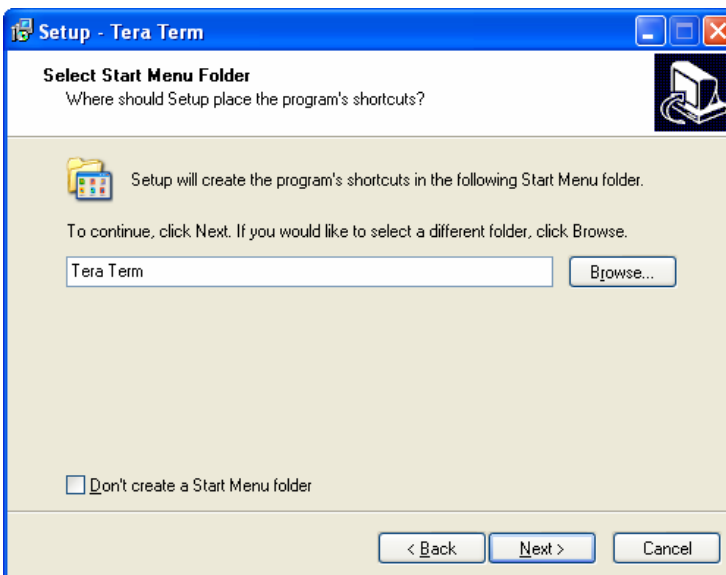

Figure 6-10: Select Start Menu Screen
12. At the Select Start Menu screen, click **N**ext (Figure 6-10).